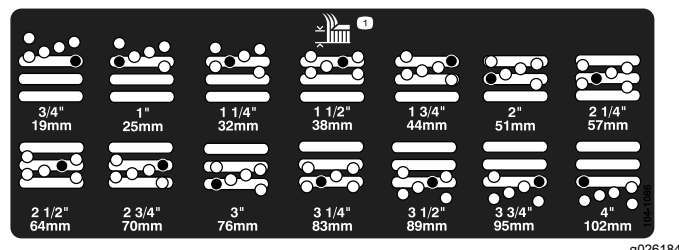

Figure 16
5. Move the chamber to the desired height of cut and install a spacer into the designated height-of-cut hole and slot (Figure 16).